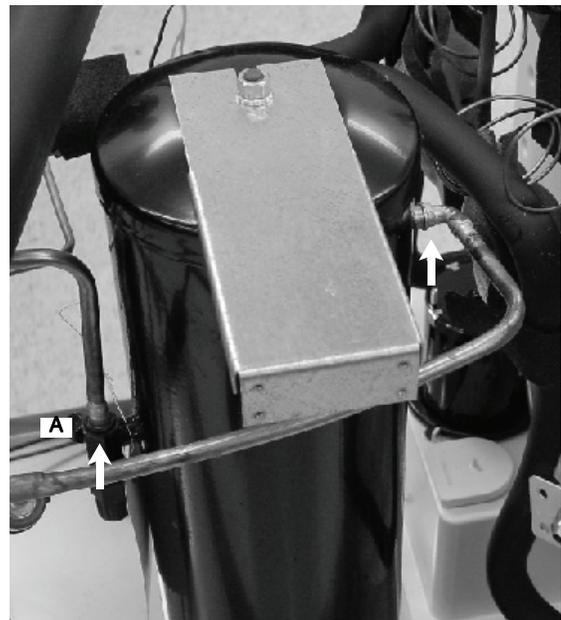

Figure 23.
22. Move the nitrogen feed to the service port (A) on the receiver. Open the service valve. Protecting the plastic bulkheads and the water pan, remove the connections to the receiver (FIGURE 23).